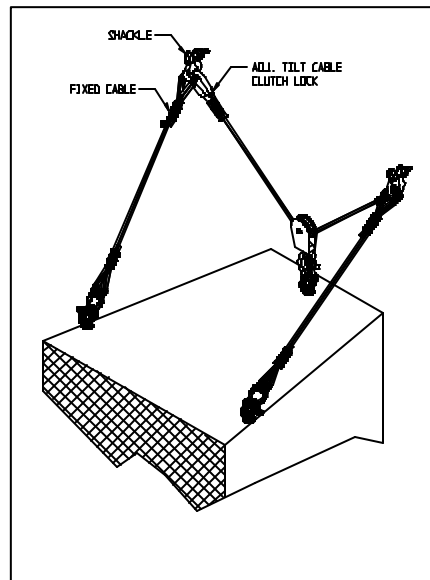

Figure 3
Select the fixed cables from the cable kit. Attach one (1) fixed cable to each front attach point of the speaker using the 5/16" shackles. Secure the screw pin to the shackle using the included cable tie (Figure 3).
Capture the eye of the pulley of the adjustable tilt cable kit to the back attach point of the speaker using the 5/16" shackle. Secure the pin to the shackle using the included cable tie (figure 3).